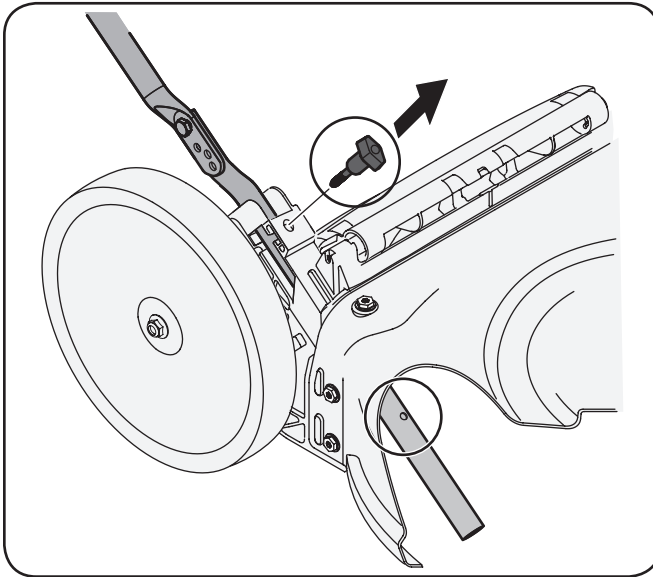
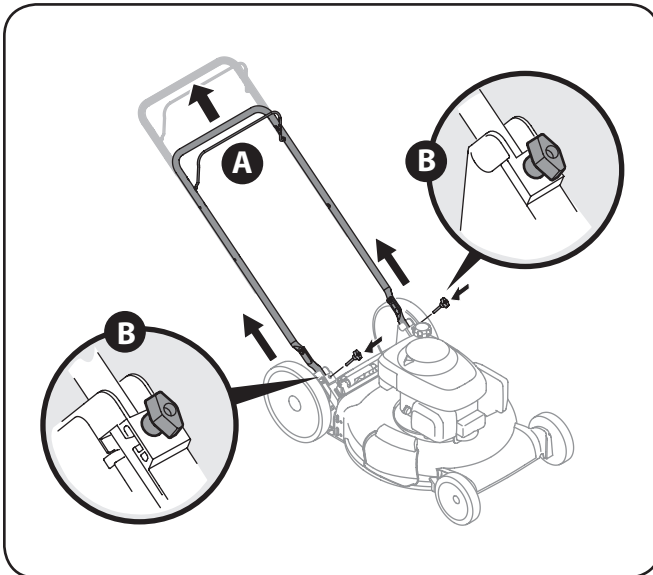

Figure 3-3
Figure 3-4
2. Remove the T-bolts from the handle brackets as shown in Figure 3-3.
- a. Pull upward on the handle until holes in lower handle (shown in Figure 3-3 deck cutaway) line up with holes in handle bracket. See Figure 3-4.
- b. Insert the T-bolts removed earlier through the handle brackets and lower handle and tighten securely to secure the handle in place. See Figure 3-4.